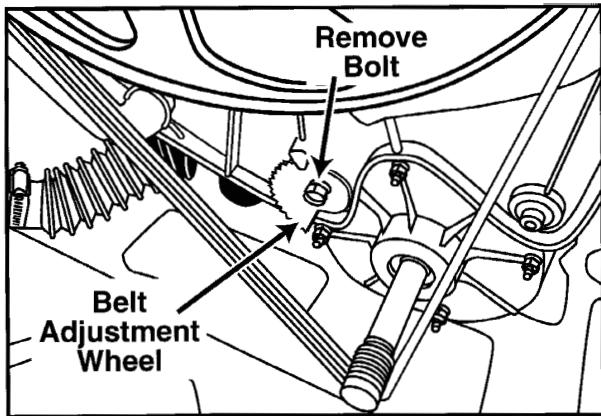

Figure 8-2
3. From the rear, locate the belt adjustment wheel and note the adjustment number aligned with the rib of the outer tub. This will help later when the belt adjustment wheel is placed back onto the outer tub and the belt is remounted on the motor and drive pulley. Remove the bolt securing the belt adjustment wheel (Figure 8-2).